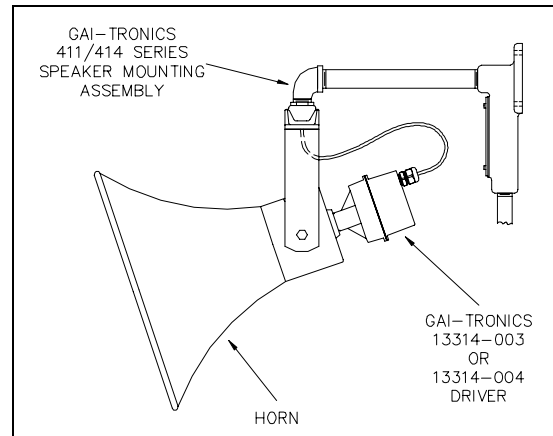

Figure 1. Typical Installation
A typical installation of the Model 13314-003 or 13314-004 Driver, with associated horn and mounting assembly, is shown in Figure 1. The recommended mounting height for the driver is 9 feet (2.7 meters) from the floor. Refer to the following chart to verify that the horn is paired with the correct speaker mounting assembly.
3. Screw the front assembly onto the rear of the horn as shown in Figure 1.